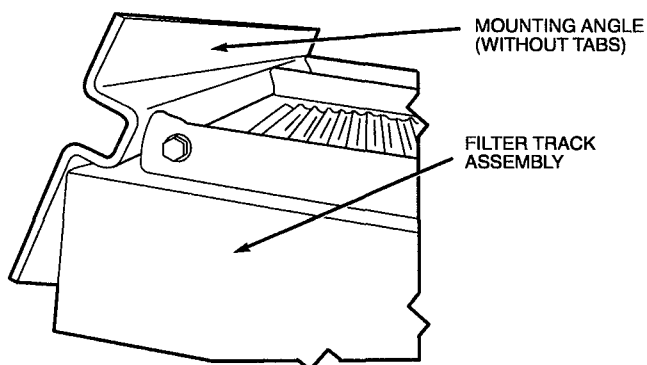

Fig. 27 — Mounting Angle (Without Tabs) Attached to Filter Track Assembly
13. Attach mounting angle (without tabs) to the assembled end of the filter track. See Fig. 27.